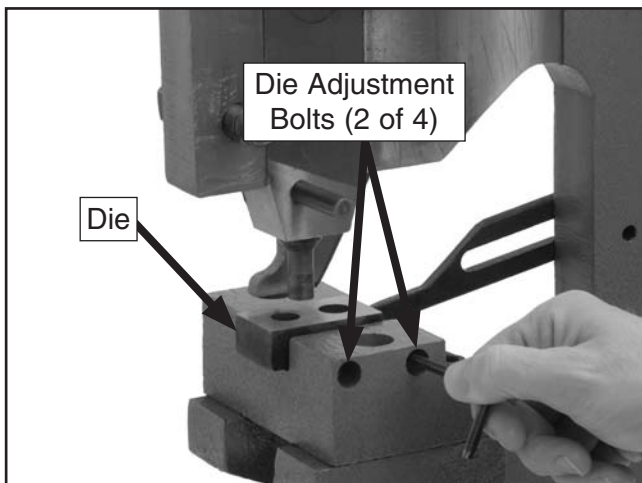

Figure 10. Die removal (side plate removed for clarity).
1. Loosen the die adjustment bolts and remove the die (**Figure 10**).